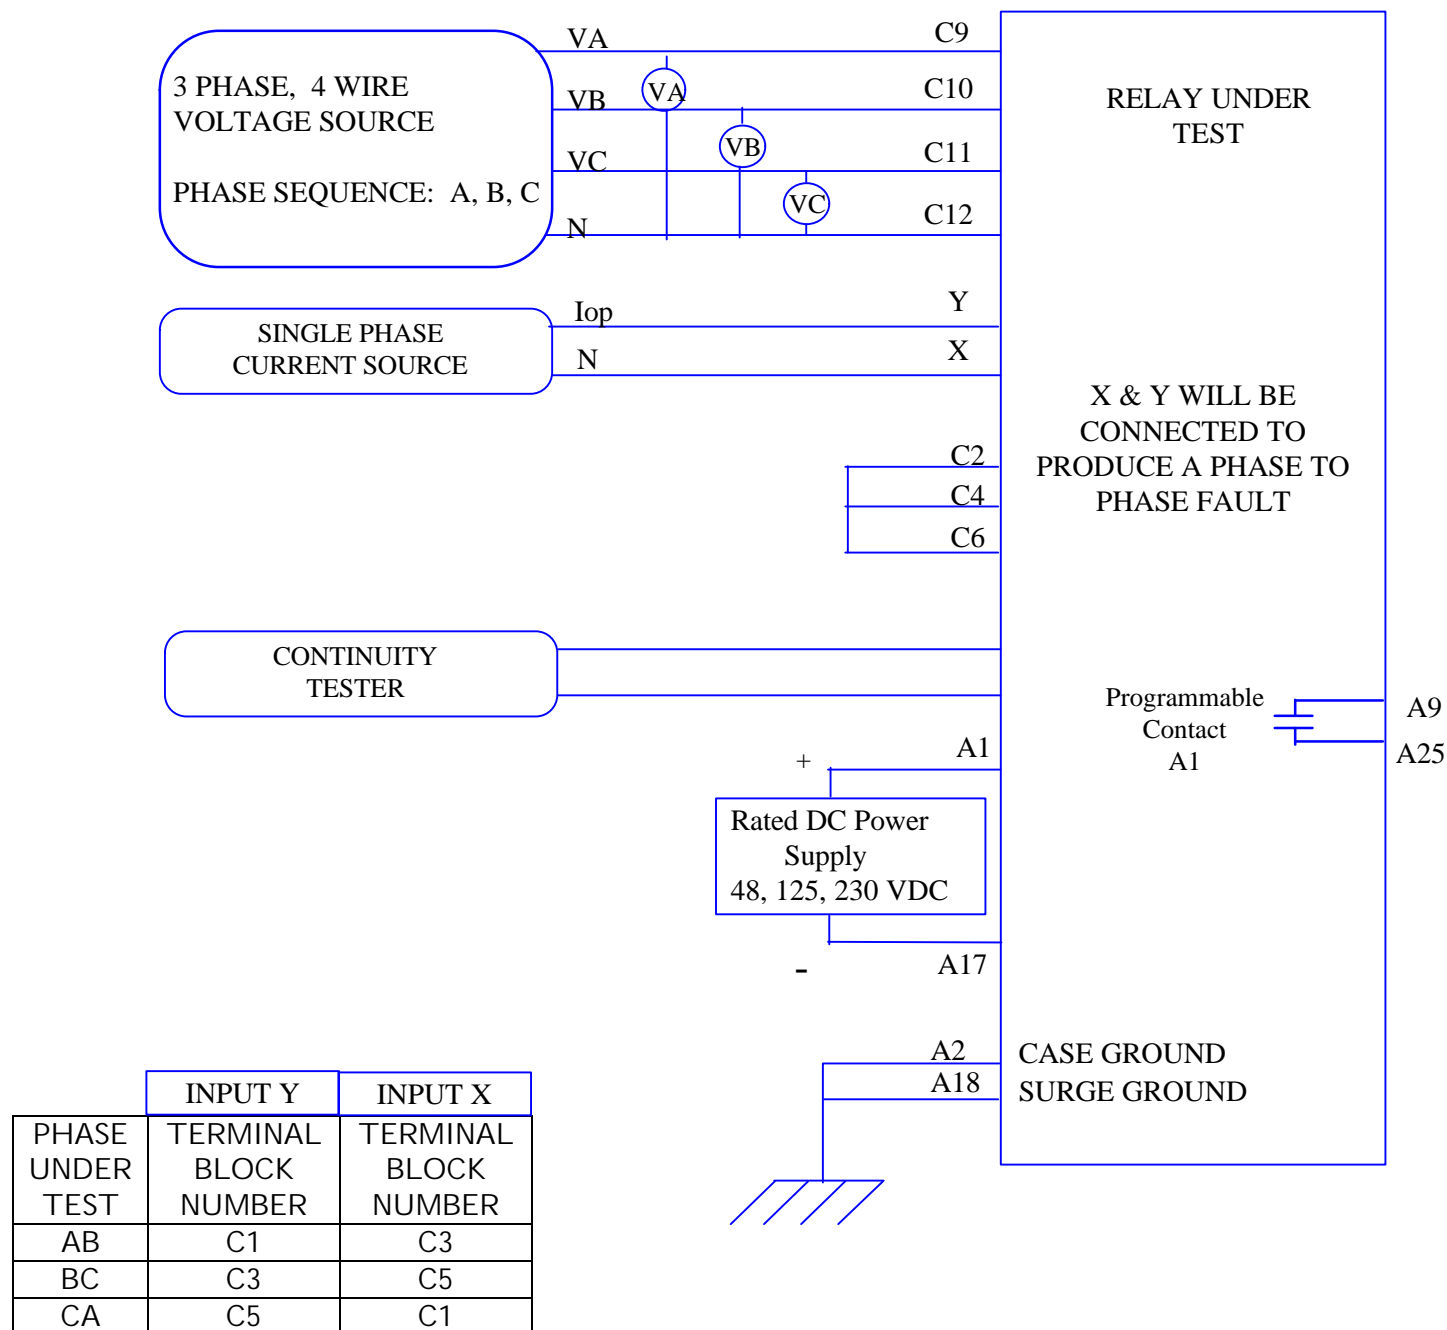

Figure 5-2. Phase-to-phase test connections.
2. Connect the relay as shown in Figure 5-2 for a phase AB, BC, or CA fault. Note that the leading phase is 180 deg. out of Phase with the line to which it is shorted.
1. Connect the relay as shown in Figure 5-2.